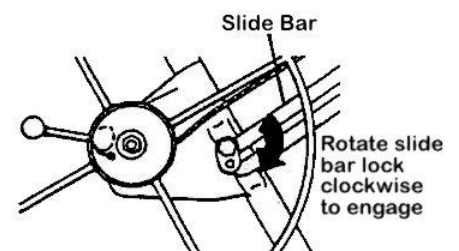

Figure 5
5. Pull the winch gently back towards the frame, will automatically cause the guide to lock, which will hold the winch in its most extended position (Fig. 5).